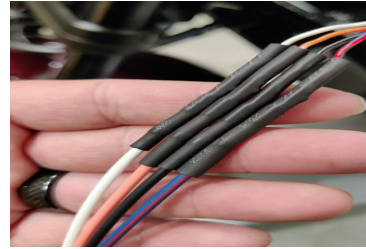

figure 16
10. Next cut the 5mm heat shrink tubing into 40mm strips and slide them over the mating terminals (figure 16). Apply heat with a heat gun to the heat shrink tubing to reduce its diameter. Make sure that none of the terminals are exposed.